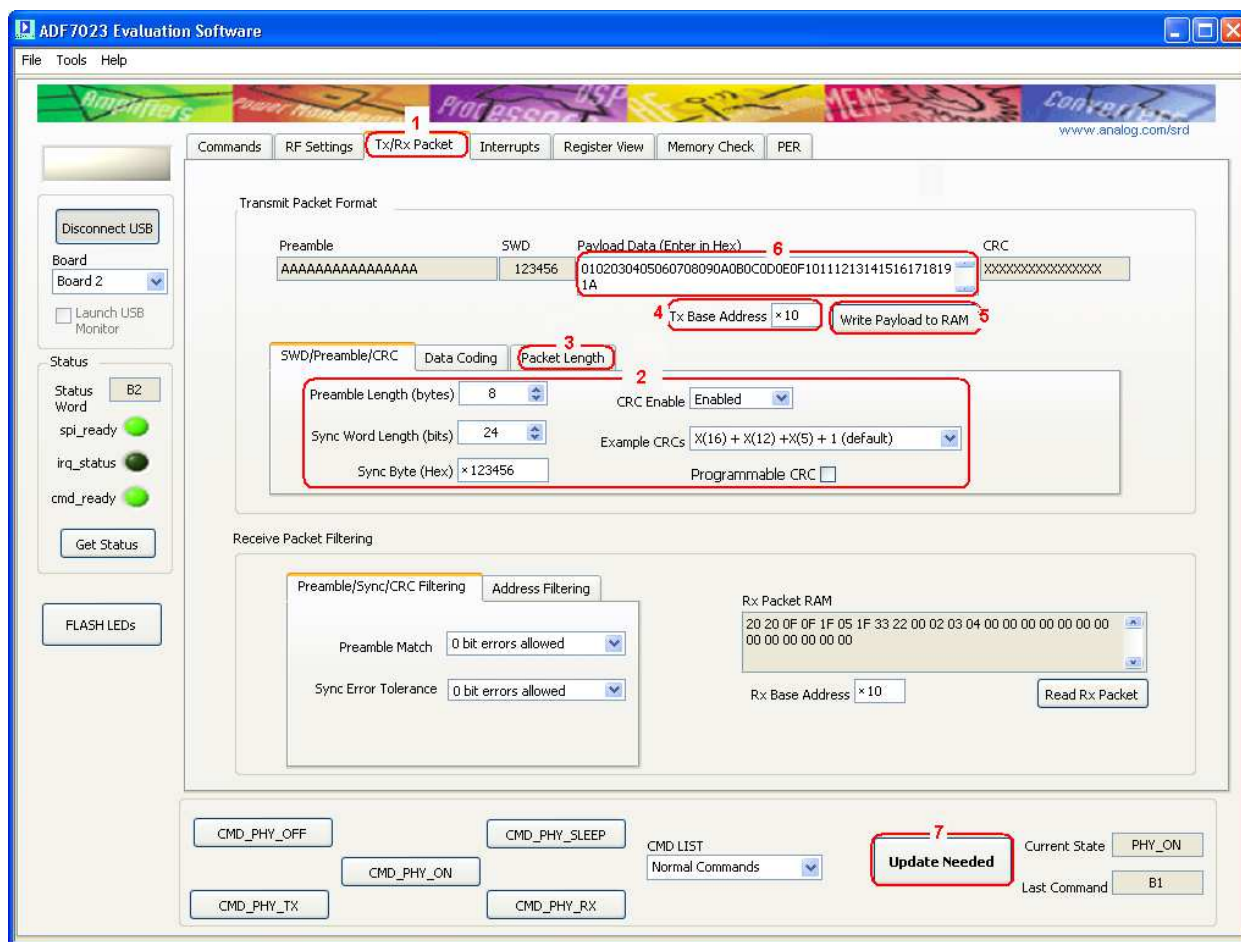

Figure 35
Using the Tx/Rx packet tab you can set up the packet format and configure the packet handler. Ensure these settings are the same as the Receiver settings previously set. (Figure 35 point (1))
1. The transmitted preamble length sync word and CRC can be defined by the user. (Figure 35 point (2))
2. Ensure you are using a fixed packet length and that, "**Packet Length Max**" is set equal the payload length. (Figure 35 point (3))
3. Set up the Tx base address. (Figure 35 point (4))
4. Insert Hex data in the **Payload Data** field (Figure 35 point (5))
then click "**Write Payload to RAM**" (Figure 35 point (6))
5. Write the settings to the device using the "**Update Needed**" button. (Figure 35 point (7))